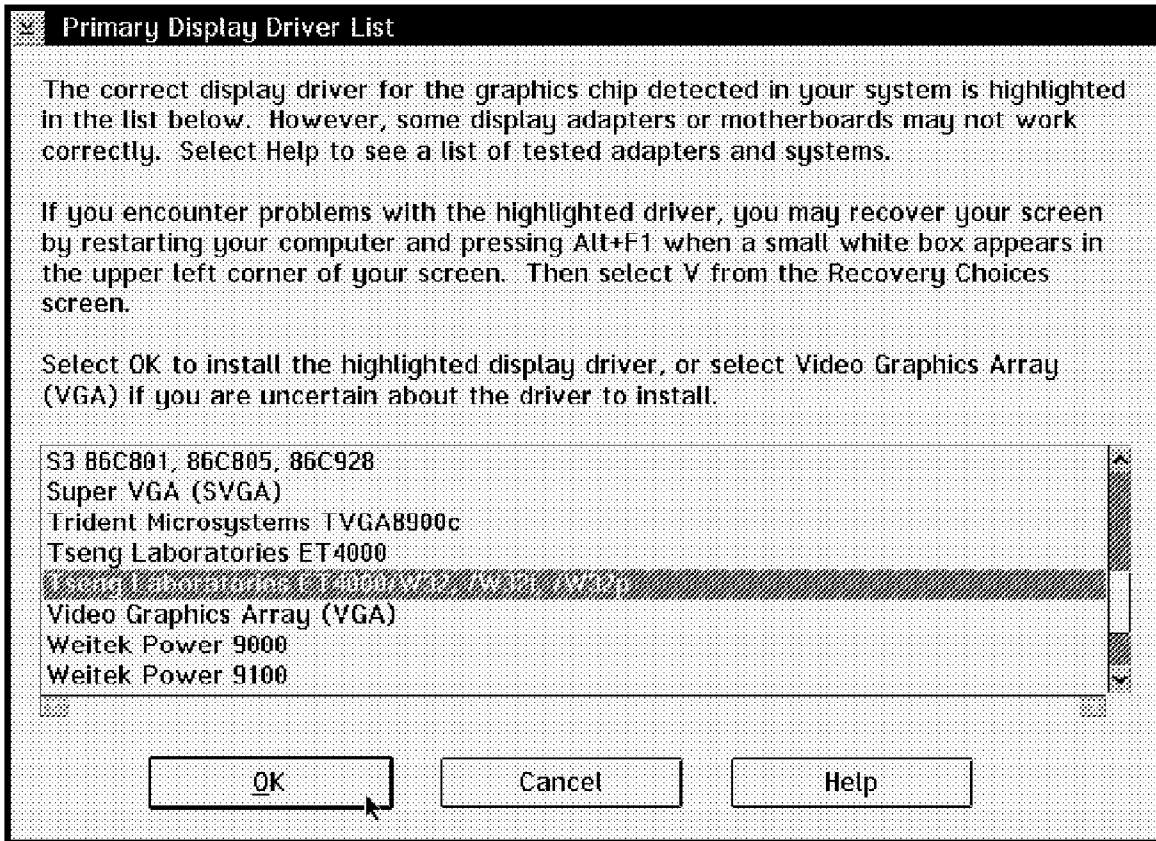

Figure 8. List of Video Chipsets
5. Select the display driver you wish to install. See Figure 8 on page 34.